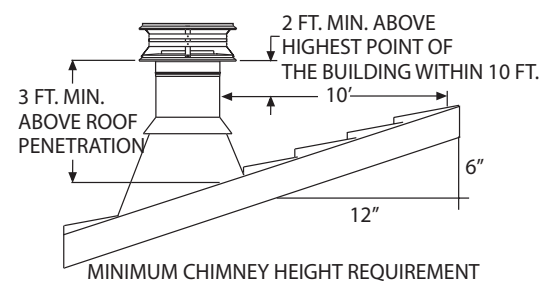

Figure 1
Step 2.	Measure the roof pitch. For example a 6/12 pitch has a vertical rise of 6" over a horizontal distance of 12". Select the appropriate flashing. See Figure 1.
Step 3.	Determine the minimum chimney height above the roof line. Building codes require a minimum of 3' above the roof penetration and at least 2' higher than any portion of a building within 10'. See Figure 1.